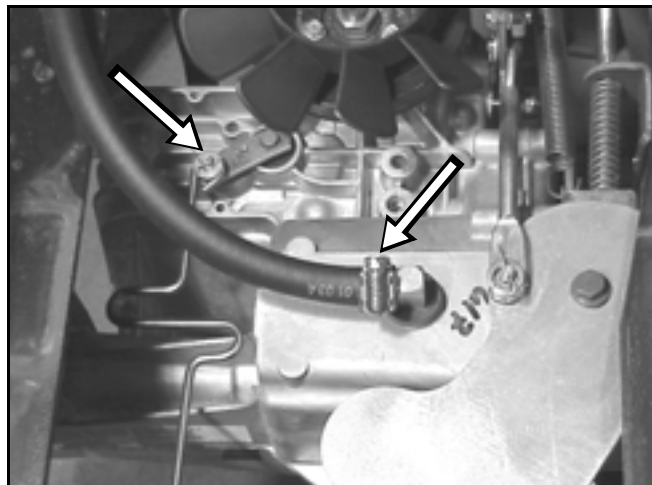

Figure 139
10. Connect the free wheeling valve rod and vent hose clamp (Figure 139).